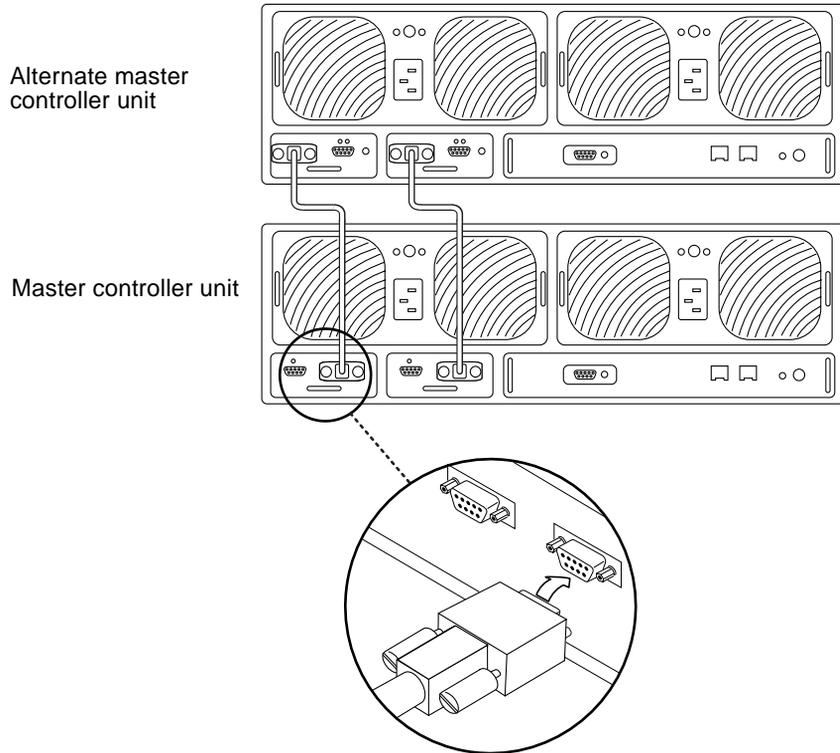

FIGURE 10-1 Connecting the Interconnect Cables
- 3. Connect the interconnect cables to the interconnect cards as shown in FIGURE 10-1.** Make sure you connect the cables to the correct interconnect card connectors *exactly* as shown in the figure. This cable connection determines the master and alternate master relationship. Tighten the retaining screws. The remaining connectors are reserved for expansion units.